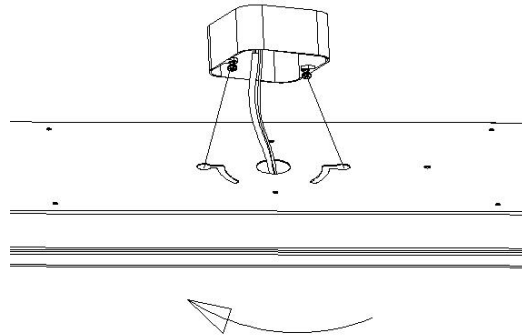

Figure 4
2. Turn housing clockwise to lock in place and tighten screws to ensure the fixture is secure and will not move .(Figure4)